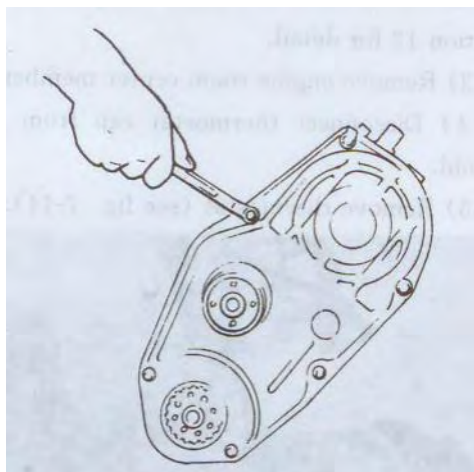

FIG.6-15 (see fig.7-16 of service manual for HFJ6351B)
(6) Remove timing belt outside cover (FIG.6-15)